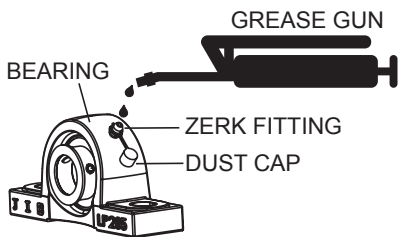

Figure 8. Bearing Lubrication
1. Remove dust cap located on top of bearing (Figure 8).